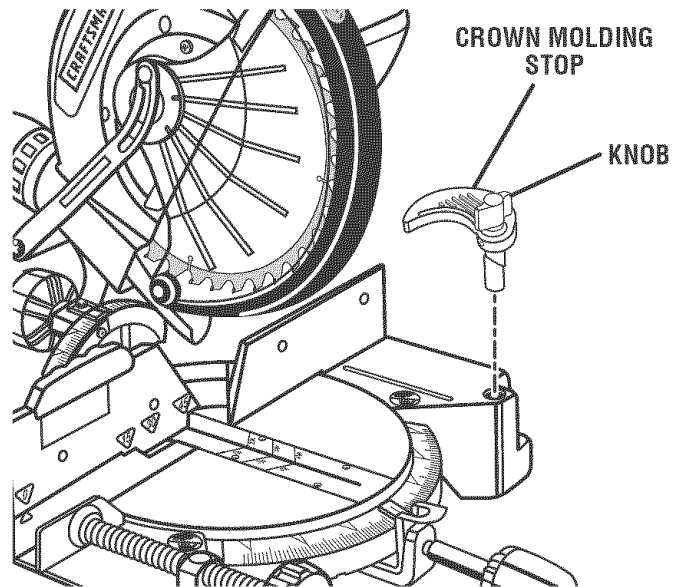

Fig. 39
See Figures 39 - 40.
- Place the stop in the hole on either the left or the right side of the saw's base. See Figure 39.